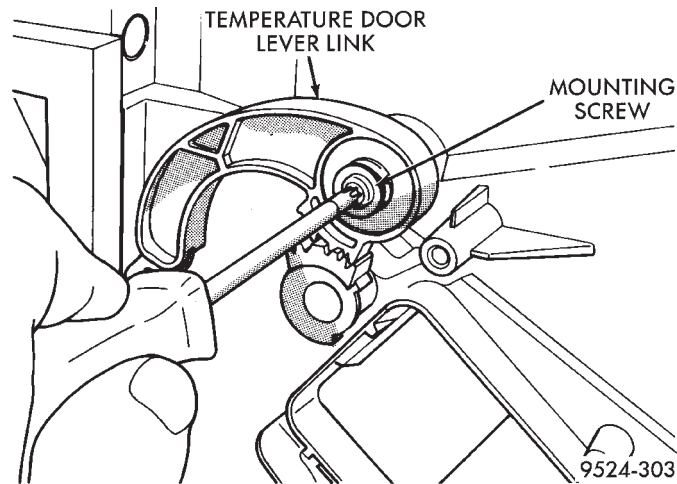

Fig. 96 Temperature Door Lever Link
(26) Remove temperature door lever link retaining screw (Fig. 96).